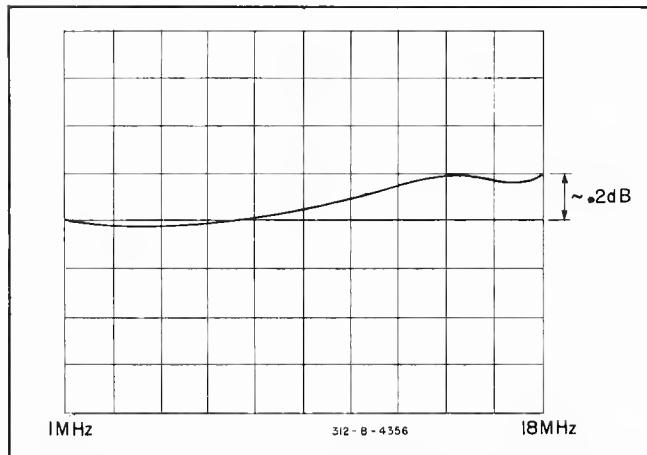

Figure 5-17. Optimum Adjustment of A33 – 312B.
- e. Adjust the oscilloscope controls for a display which looks like Figure 5-17. The display gives relative frequency response with frequency increasing from left to right. The display is meaningful only when the trace moves from left to right. The retrace (right to left motion) should be ignored. Use the offset control for vertical positioning. Set the storage persistence so that each sweep fades out before the next one starts.
The waveform of Figure 5-17 is ideal for the 312B. For the 312D the same waveform is ideal but the response should not peak more than +0.1 dB at high frequencies.
7. Adjust C2. Reduce the slope of the frequency response as shown in Figure 5-17. If necessary, re-adjust C11 and L2 to achieve this response. If the frequency response cannot be adjusted, return to Step 1 and repeat the procedure using different settings for L1 and L3. If the response is correct, proceed to Step i.
- c. Adjust A32C10 for the same frequency response characteristic shown in Figure 5-17.